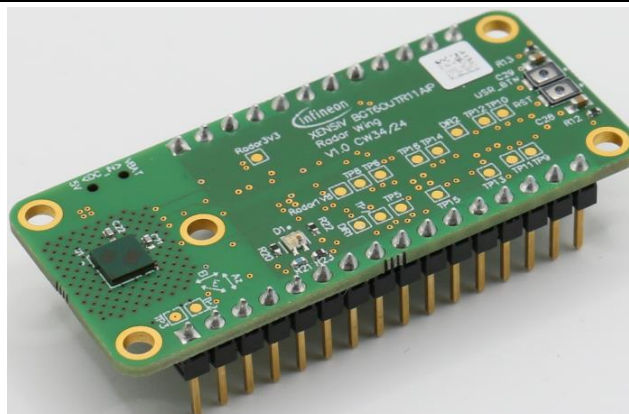

Figure 2: XENSIV™ BGT60UTR11AIP radar wing
- XENSIV™ BGT60UTR11AIP radar wing (EVAL_BGT60UTR11AIP_WING) (see **Figure 2**)